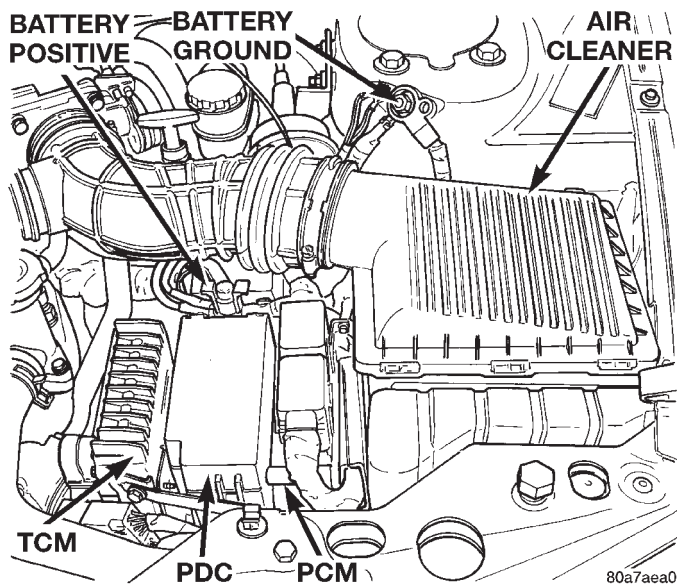

Fig. 5 Powertrain Control Module Location
(1) Unplug the GRAY 40-way connector from the Powertrain Control Module (PCM), (Fig. 5).